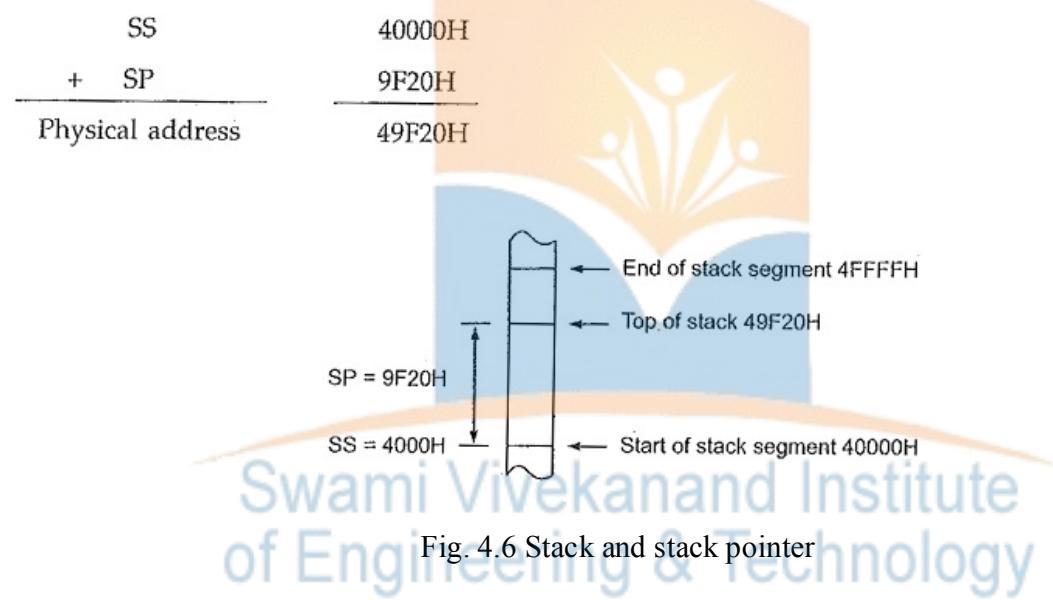

Fig. 4.6 Stack and stack pointer
**Stack Pointer (SP):** The stack pointer (SP) register contains the 16-bit offset from the start of the segment to the top of stack. For stack operation, physical address is produced by adding the contents of stack pointer register to the segment base address in SS. To do this the contents of the stack segment register are shifted four bits left and the contents of SP are added to the shifted result. If the contents of SP are 9F20H and SS are 4000H then the physical address is calculated as follows. (Refer Fig. 4.6)